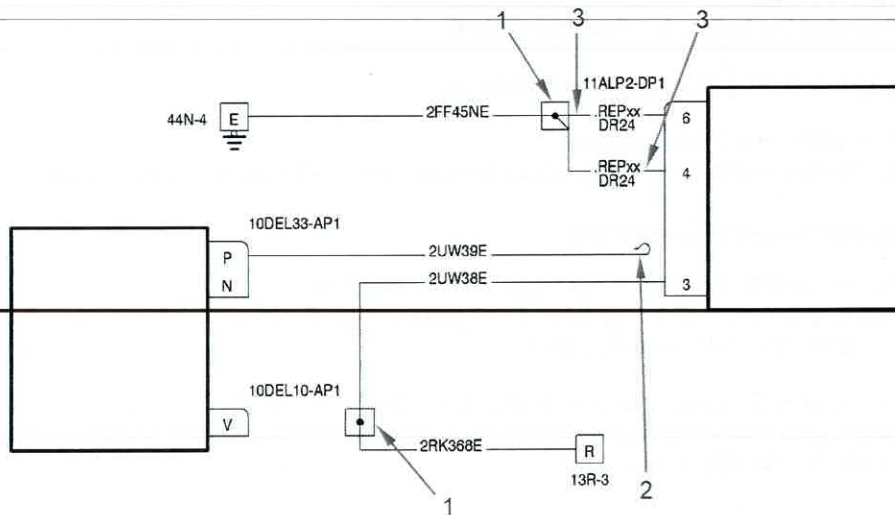

Figure 2
- Perform the modification of the wiring to connector 11 ALPHA as per Figure 2.